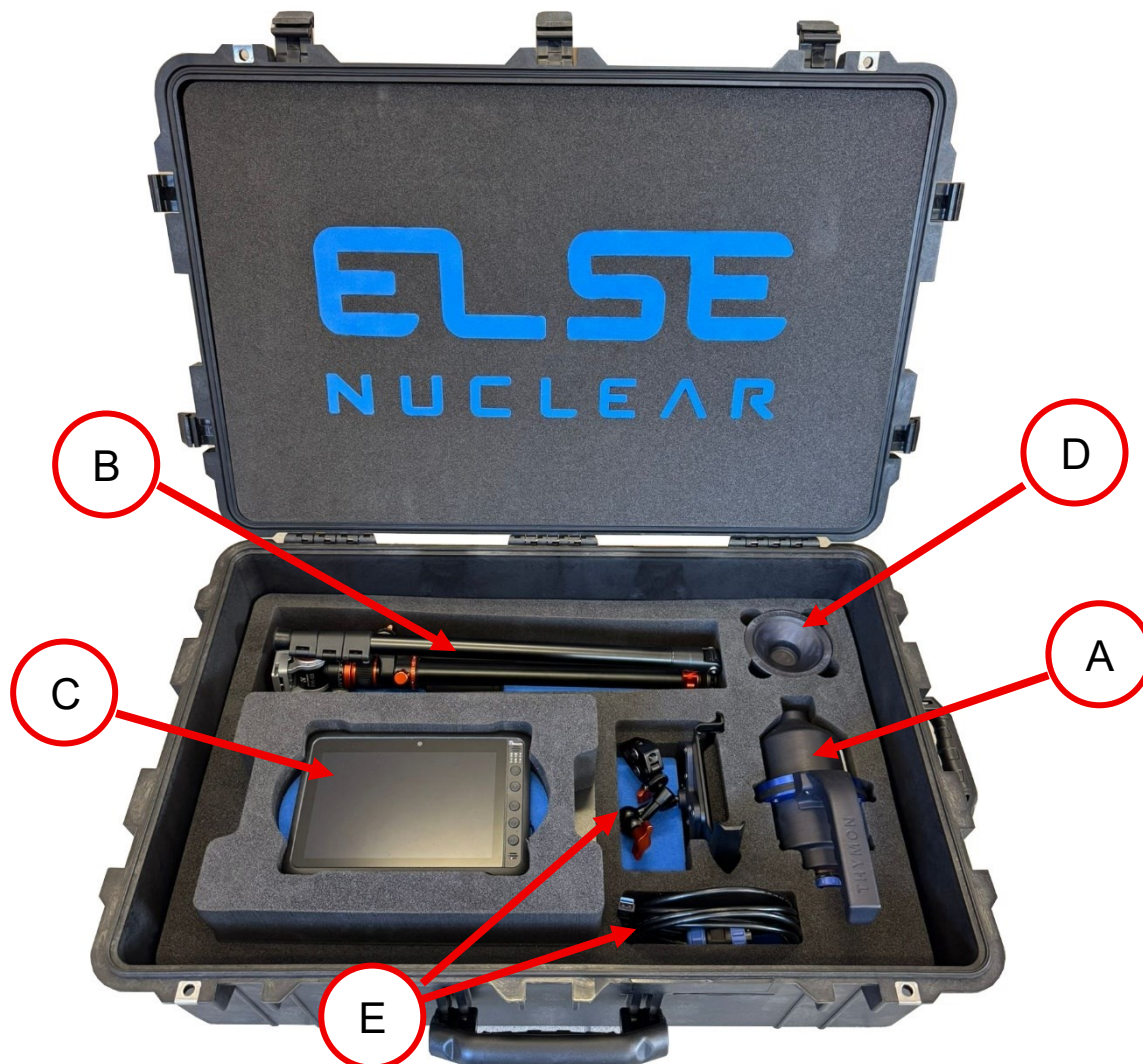

Figure 2.1: overall presentation of THYMON (open case)
- **Detector probe**, which can be used either handheld or mounted on its dedicated support. - “A” in figure 2.1, and figure 2.2
therefore provides the possibility of hands-free operation. - “B” in figure 2.1, and figure 2.3
- **Rugged high-IP-grade tablet**, on which the proprietary ELSE NUCLEAR software allows detector control and data visualisation and analysis. The tablet is connected to the probe with a dedicated USB cable. The charger for the tablet is placed under the foam lodging. - “C” in figure 2.1 and figure 2.4
- **KCl calibration source**, in the form of a self-contained assembly including about 350 g of KCl (15 Bq/g activity concentration), specifically designed to be coupled to the detector head. - “D” in figure 2.1 and figure 2.5
- **Tablet holder and detector USB cable** - “E” in figure 2.1